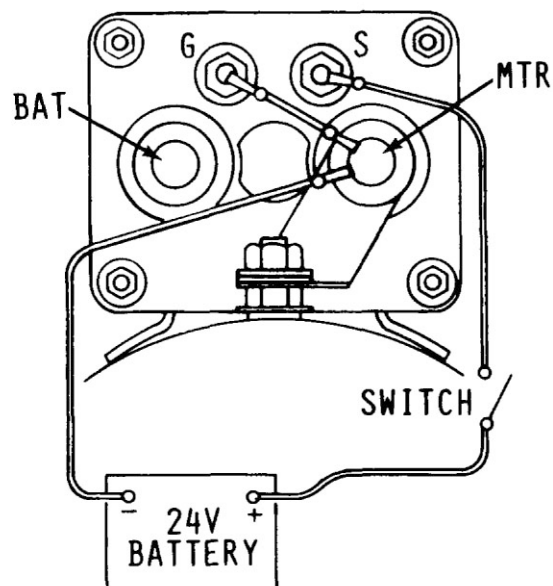

Figure 2-2. Solenoid Shift Test Circuit
- 2) Solenoid Shift Check. Connect power source or battery (fig. 2-2) to the solenoid terminals as indicated. Briefly close, then open the switch. Drive clutch assembly should shift in response to switch closure and return when switch is opened.